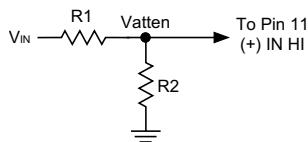

Figure 1. Resistor Divider
The resistor divider shown in Figure 1 easily accomplishes the task of reducing the raw input signal (V_{IN}) down to a level which a $\pm 2V$ -input meter (DMS-30PC-1-RS for example) can accept. However, the attenuated signal (V_{atten}) at pin 11 (+) INPUT HI still has a dc offset which has to be nulled. The following procedure can be used with many other input-voltage/display-reading combinations. Two completely worked-out examples will be provided.
The DMS-EB Application Board for DMS-30 Series meters has locations for installing the required user-supplied components shown in Figures 1 and 2. For large OEM requirements, DATEL can provide a completely wired and tested meter to suit your particular requirements. Please consult our sales or marketing engineers for more information.
Step 3. Find the input attenuator ratio r , and then use r to find $R2$ (see Figure 1):